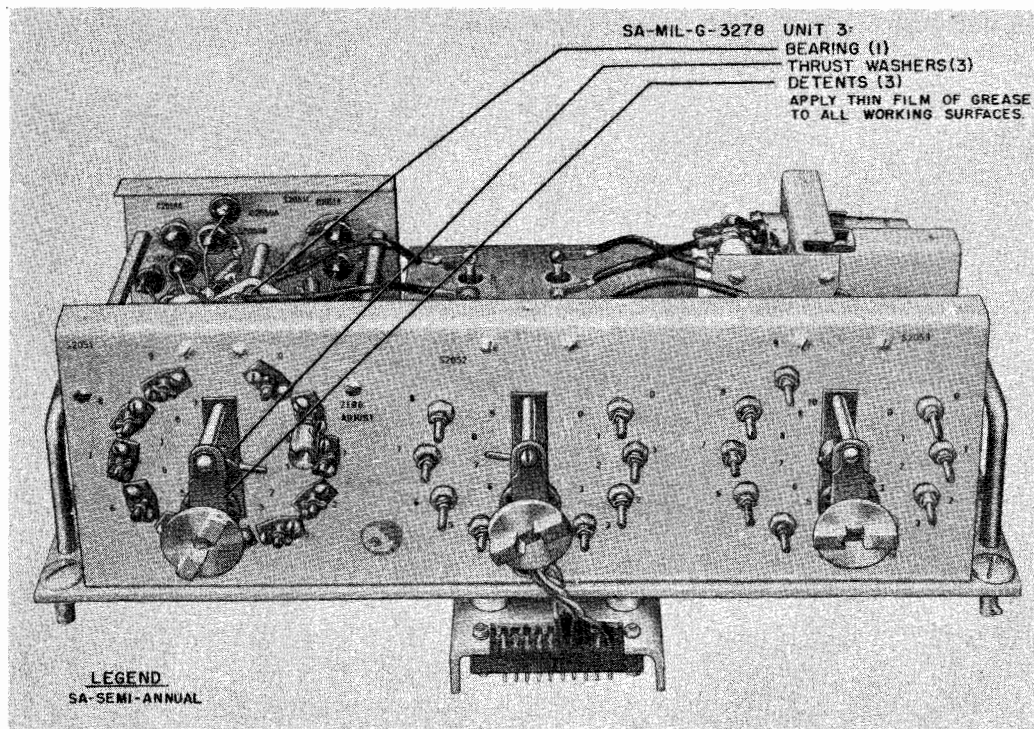

Figure 6-23. RFO, Unit 3 (Z-2053), Lubrication
(f) UNIT 3.—Lubricating points in unit 3 are shown in figure 6-23, a partially disassembled view of the unit.
- (j) Figure 6-23